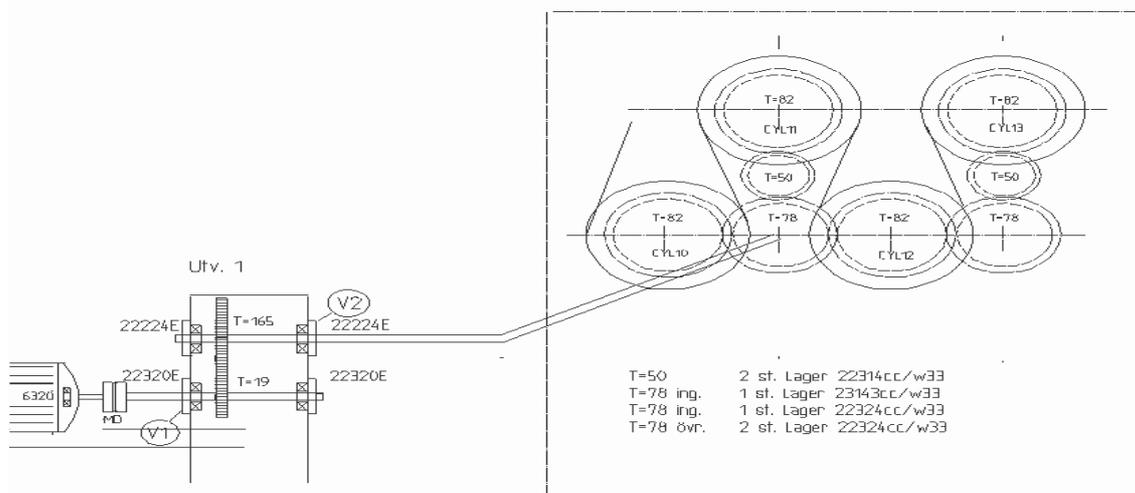

Figure 1. Typical setup of a dryer drive with the gearbox (left) and related cogwheels (right).
- Select machine section (here the dryer section; see Figure 1)
- Select what to investigate from the 14 predefined object frequencies (toothmesh, BPFO, BPFI, BSF, fundamental velocity (FV), runner blade, etc.),